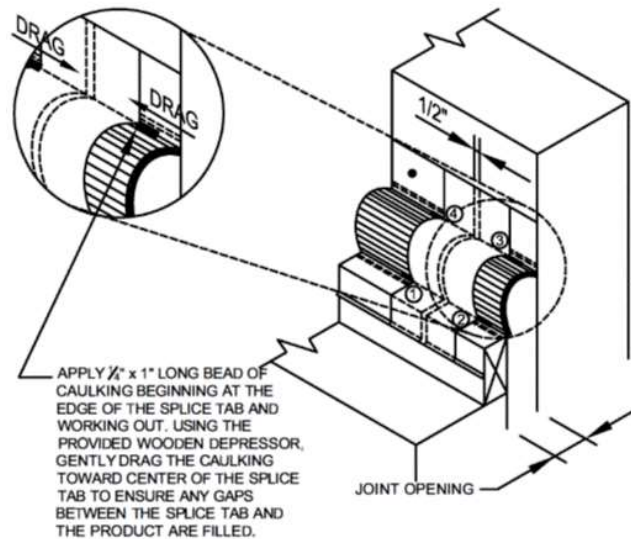

Figure 3
3. Apply $\frac{1}{4}$ " x 1" long bead of caulking beginning at the edge of the splice tab and working out. Using the provided wooden depressor, gently drag the caulking toward center of the splice tab to ensure any gaps between the splice tab and the product are filled. Typical at four location per splice tab and typical @ each spliced location. **See Figure 3**